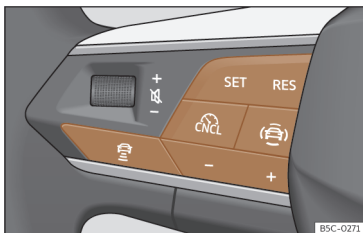

Fig. 141 On the multifunction steering wheel: buttons for operating the ACC.
- Press the  button on the multifunction steering wheel >>> **Fig. 141**.
- To start regulation, press the **SET** button >>> **Fig. 141**.
- Press the  button and then + or - button >>> **Fig. 141**.
- Briefly press  button >>> **Fig. 141** or press the brake pedal.